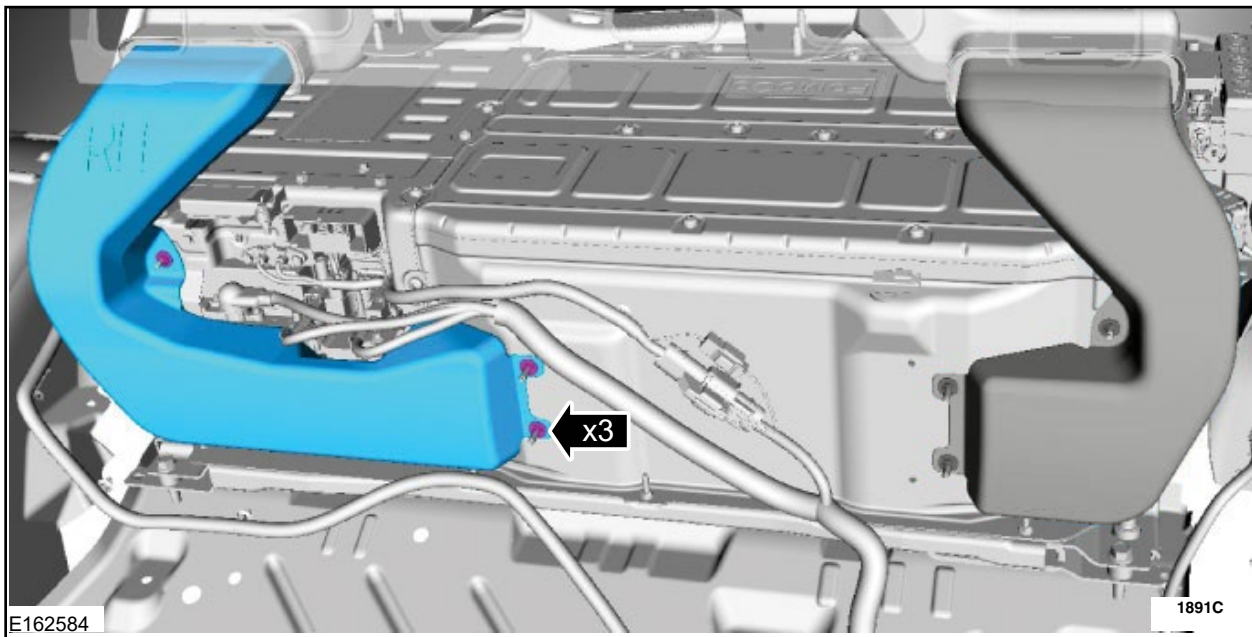

FIGURE 4
6. Remove the retainers and the RH side duct assembly. See Figure 4.